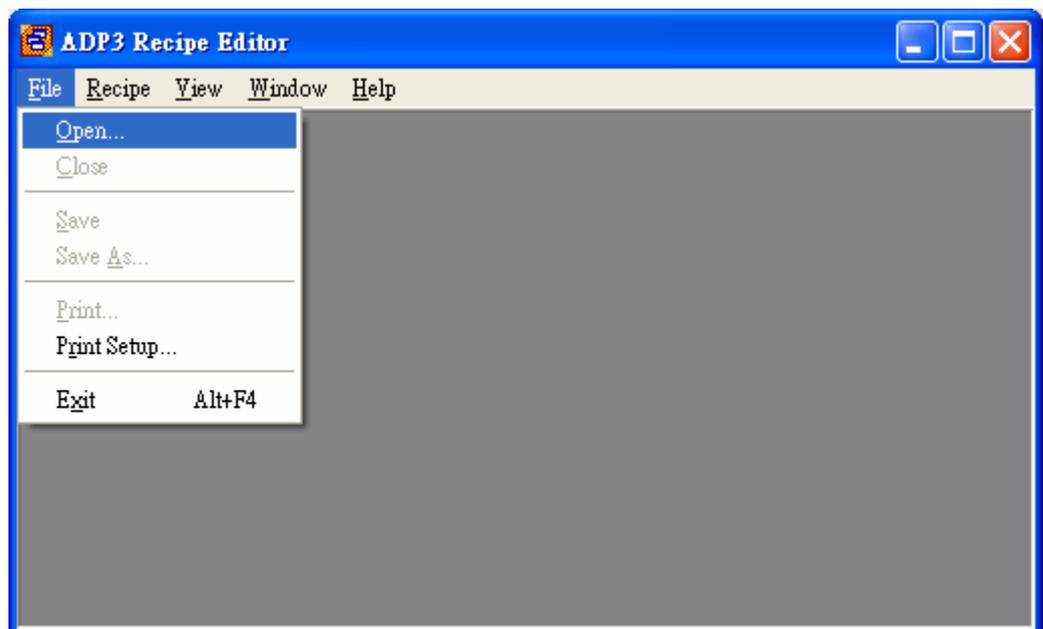

Figure 190. The ADP Recipe Editor Dialog Box
5. After the above steps have completed, the recipe file can be open to edit. Select [Tool]/ [View/Edit], the ADP recipe edit dialog box should be appeared as Figure 190. Select [File]/ [Open] and select the desired recipe file (ex. “painting.RCP”). Note: Recipe files “*.RCP” must be uploaded and saved in HMI first, the recipe size and number of recipes can not be modified